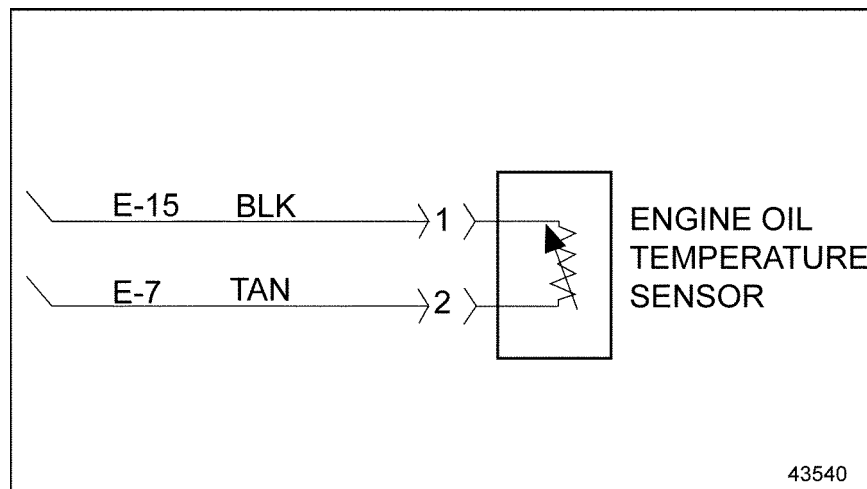

Figure 24-4 Engine Oil Temperature Sensor
2. Disconnect OTS/EOT Sensor connector. See Figure 24-4.